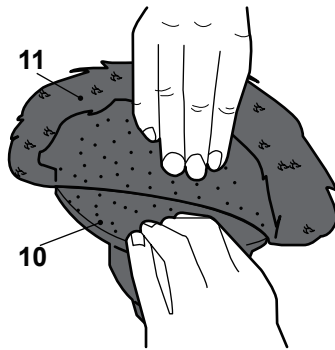

Fig. 7
- > Grip the rim of the polishing bonnet (11) and carefully remove it from the backing disc (10) (Fig. 7).
- > Attach a new polishing bonnet (11) as required.